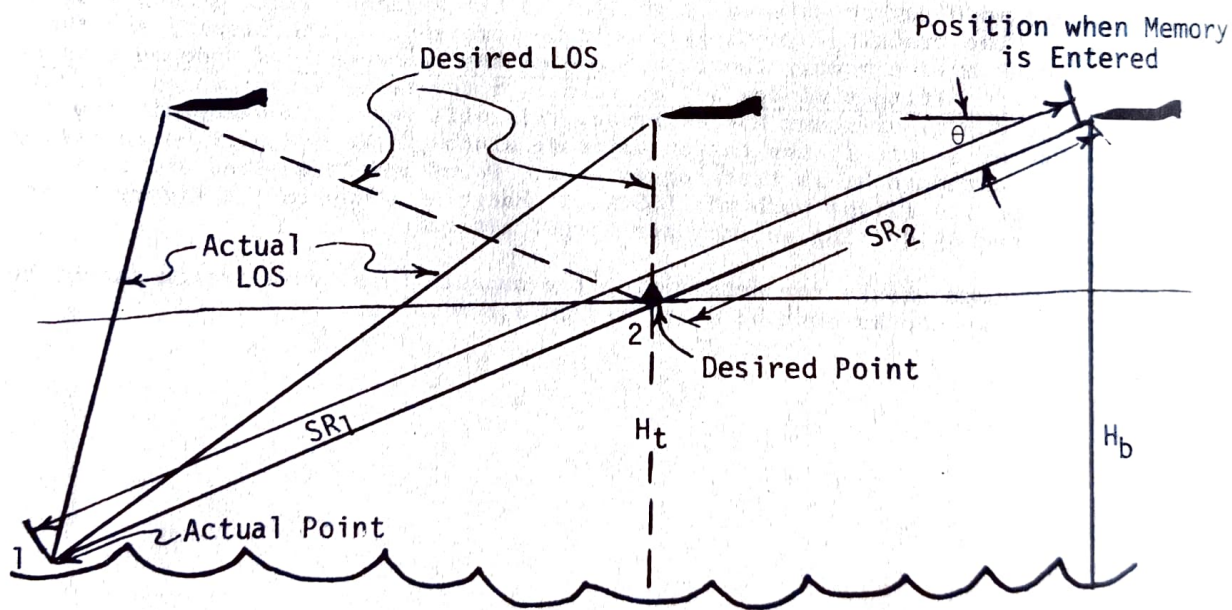

Figure 37, Memory Check
b. Memory check. This is a very simple procedure which may be followed to ensure the memory function is operating properly. It may be preferable to use pod computed range rather than laser SR. The WSO first sets in the terrain elevation, corrected for D-Value, of the ground over which the aircraft is positioned. He next initiates track of an easily identifiable point with the pod. The pilot then verifies that the SR is within system limits. The Memory mode may be entered by rolling to hit a gimbal limit or depressing the insert button. The tracking symbology should be removed from the display and the pod LOS held on the point by the memory function. One of the common errors made on this check is to leave the target altitude window set at zero. If the terrain over which the aircraft is flying has any significant MSL altitude, this will induce substantial errors (Figure 37). If zero is left in the target altitude window, the WSO will be inserting SR1 into the WRCS, although he is tracking point 2. Point 1 is memorized and as the aircraft continues on its flight path the LOS will change as shown in the figure. The bogus memory is caused by setting an improper target altitude.